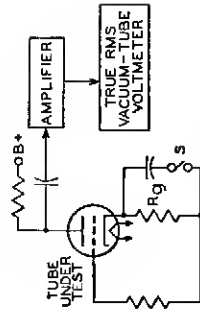

Fig. 98
**Hum and noise** characteristics of high-fidelity audio amplifier tube types such as the 7025 and the 7199 are tested in an amplifier circuit such as that shown in Fig. 98. The output of the test circuit is fed into a low-noise amplifier. The